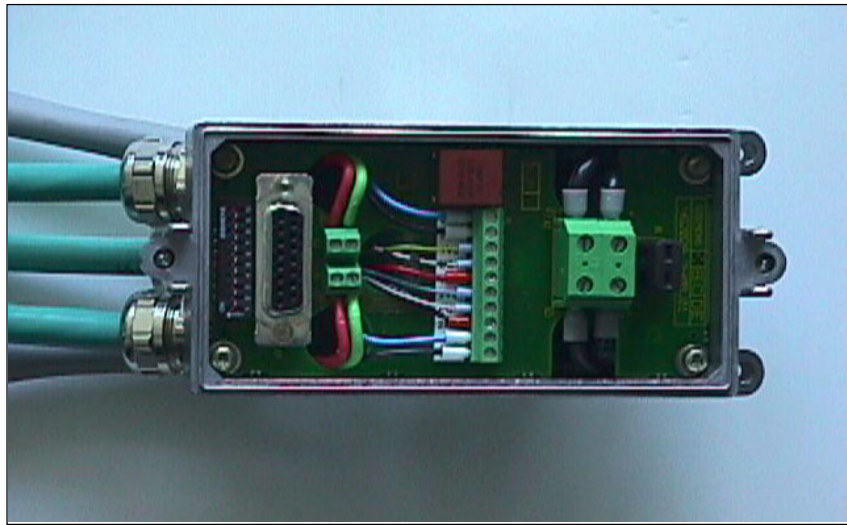

Fig. 2-26 Connection cover with the cables inserted: View from below
- Connection cover from the bottom —> refer to Fig. 2-26